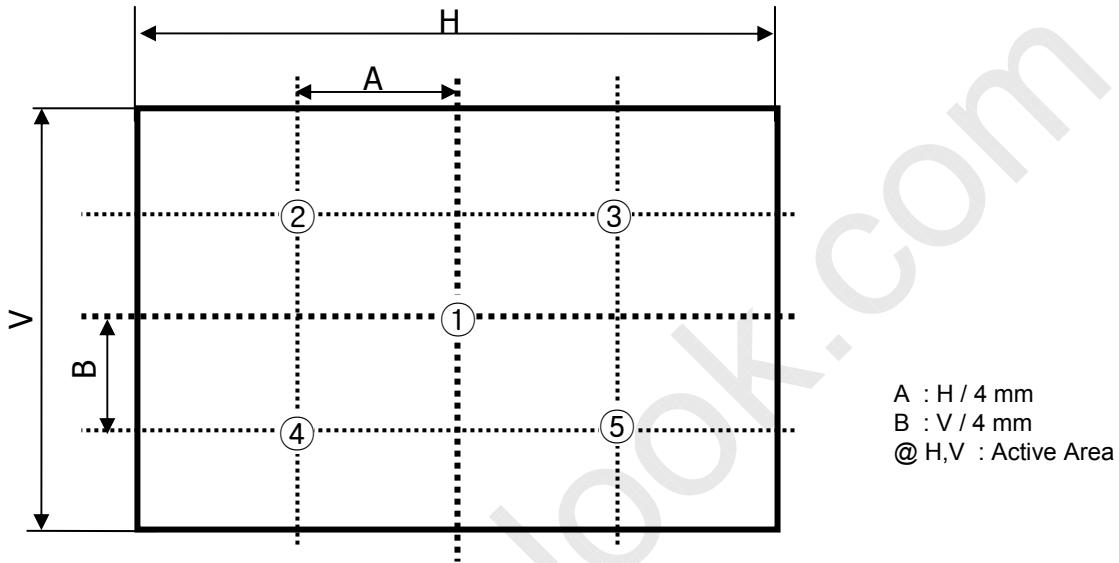

FIG. 2 5 Points for Luminance Measure
n = the Position number(1, 2, 3, 4, 5). For more information, see FIG 2.
2. Surface luminance are determined after the unit has been 'ON' and 60 minutes after lighting the backlight in a dark environment at $25 \pm 2^\circ\text{C}$. Surface luminance is the luminance value at center 1-point across the LCD surface 50cm from the surface with all pixels displaying white. For more information see the FIG. 2.
For more information, see the FIG. 2.